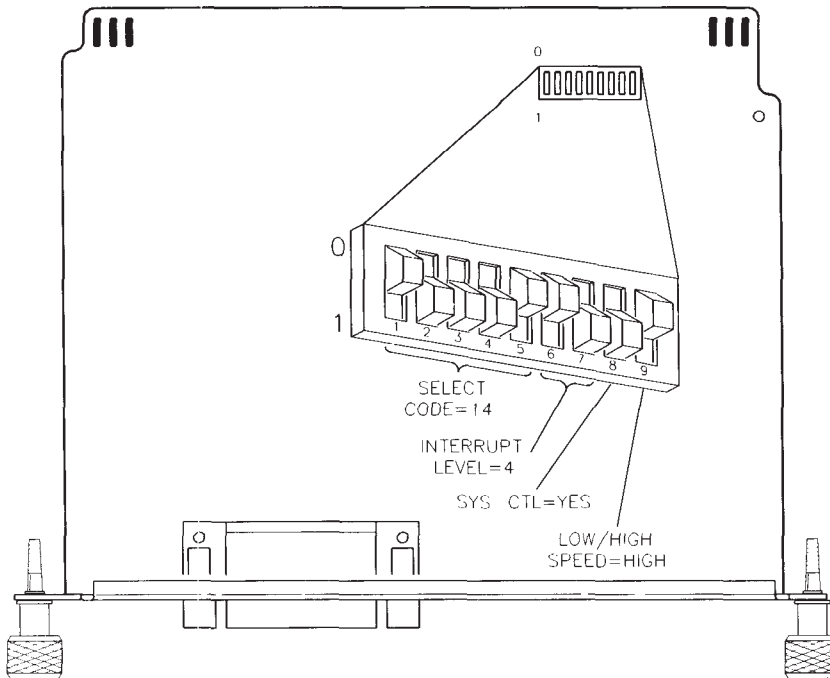

Figure 5-12.
- a. Find the set of nine switches by referring to Figure 5-12. Switches 1 through 5 in this group determine the select code.
- a. Find the set of nine switches by referring to Figure 5-12. Switches 6 and 7 in this group determine the interrupt level.
- b. If using HP-UX, set these switches to interrupt level 4 as shown in Figure 5-12. To get interrupt level 4, set the left switch to 0 and the
- a. Find the set of nine switches by referring to Figure 5-12. Switch 8 in this group determines the system controller setting.
- b. If connecting two computers together via HP-IB, only one of them may be set to system controller. To change this interface to non-system controller, move the system controller switch shown in Figure 5-12 to the 0 position (the opposite of that shown).
SKIP? The Low/High Speed switch is preset to *0*, “high speed,” as shown in Figure 5-12. This setting is appropriate for most applications. If you want to change this setting, continue with step 5; otherwise skip to step 6.
- a. Find the set of nine switches by referring to Figure 5-12. Switch 9 in this group is the Low/High Speed switch.
- To set this switch to “low speed,” set switch 9 to *1*, which is opposite of that shown in Figure 5-12.
- To set this switch to “high speed,” set switch 9 to *0* as shown in Figure 5-12.